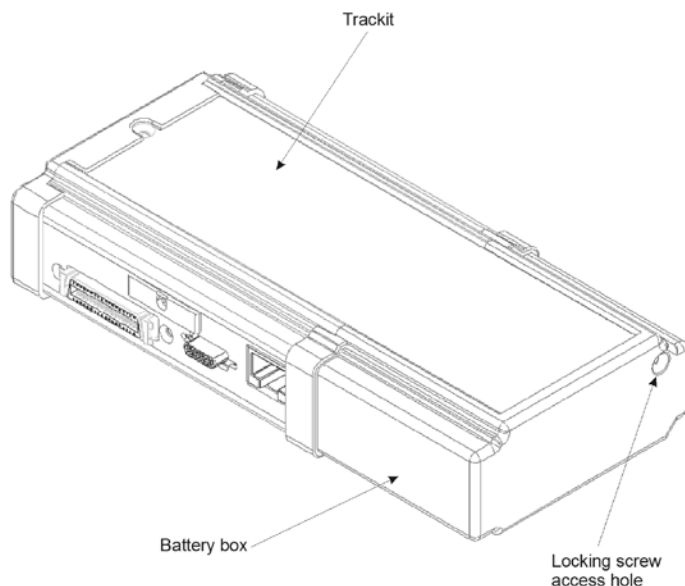

Figure 23 Opening the rear battery box/ door
- 1 Open the Trackit Mk3 rear Battery box/door with the special tool provided. See Figure 23. The unit's warning beeper will sound for a few seconds and the Door Open symbol on the display will flash.